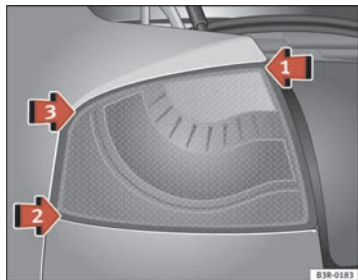
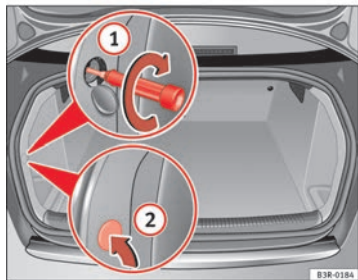

Fig. 217 Fitting the rear light unit
Fig. 218 Luggage compartment: Location of the bolt securing the rear light unit
- First place the rear light unit in ⇒ fig. 217 arrow ① in the housing.
- Gently press the rear light unit against the housing, first in position ② and then in position ③, until that the clips engage firmly in the rubber mountings.
- Apply gentle pressure to the front side of the rear light unit and secure using the screwdriver, from the luggage compartment ⇒ fig. 218 ①.
- Replace the cover ② in the interior trim.